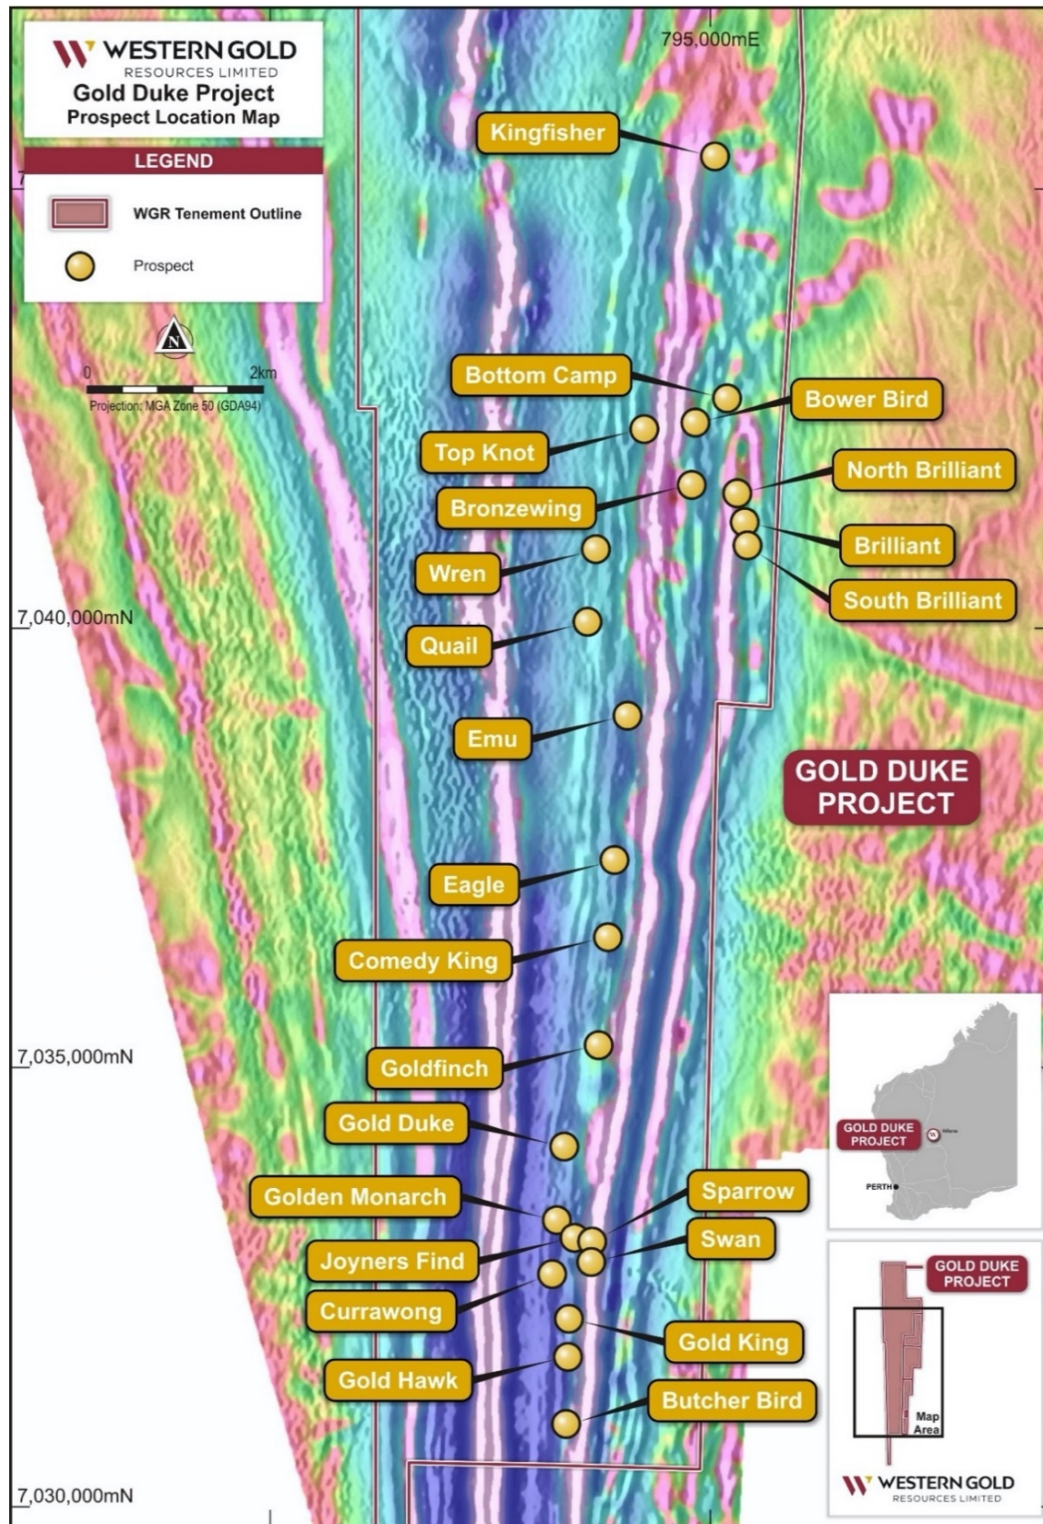

Figure 1 – Gold Duke project on TMI (1VD) and Gold Deposit Locations
- The drilling program at Brilliant and Brilliant North (M53/1017) is WGR's first drilling program within the Brilliant Shear Zone, with the Brilliant and North Brilliant mines producing 7,850 tonnes @14.27 g/t in the 1920's (Figure 1).
Western Gold Resources (ASX: WGR) ("**WGR**" or "the **Company**") is pleased to announce that it has received the final assay results from 35 reverse circulation ("RC") drill holes for 3,214m recently completed at the Brilliant and Brilliant North prospects at its Gold Duke project (Figure 1).